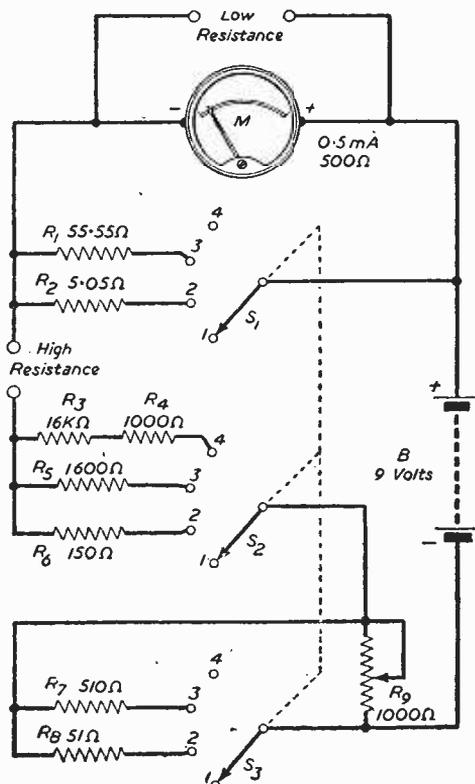

Fig. 3.—The wide-range ohmmeter for 0.1 ohm—1 megohm.
**I**NSTABILITY due to lack of sufficient decoupling in the H.T. supply is a common cause of trouble in microphone amplifiers and considerable attention should be paid to this part of the circuit. If the microphone amplifier has its own mains unit, it is sometimes claimed that no decoupling is necessary. The argument is that the A.C. components of the anode currents of the two valves are out of phase and therefore instability cannot be caused by a common impedance in the H.T. circuit. Although this is true, a common impedance can cause negative feedback, which may reduce the gain of the amplifier considerably. Thus, the H.T. supply for the first valve must be adequately decoupled. If the microphone amplifier and the following amplifier are fed from a common H.T. supply, considerable decoupling is necessary for both valves. As pentodes with high anode and screen resistors take very small H.T. currents, high value resistors can be used for decoupling without causing too great a loss of H.T. volts. Nevertheless, it is very doubtful if all the decoupling necessary for the first stage can be supplied by a single R.C. circuit. If it can be done, the values of R and C necessary will be of the order of 100,000 ohms and 32  $\mu$ F respectively and it is far preferable to use two stages of decoupling with the values suggested in Fig. 3. Although the author has found the decoupling measures illustrated in Fig. 3 satisfactory, it is possible in particular circumstances that additional decoupling may be necessary to prevent instability. In such cases a two stage decoupling circuit may be used for V2 or a three stage circuit for V1. The loss of H.T. volts in the decoupling networks is about 50 volts for both valves, and the H.T. supply to the amplifier, therefore, should be about 350 volts.
It is clear from Fig. 3 that R5, C4 and R10 form a potential divider across the H.T. supply to V1 and that any ripple present will be amplified by V2 and all subsequent valves. It is, therefore, unnecessary to say that the H.T. supply for the microphone amplifier should be very thoroughly smoothed. This need not, however, cause undue concern, for it is usually found that if the H.T. supply is adequately decoupled it is automatically sufficiently smoothed.
The output impedance of the amplifier of Fig. 3 is very high and it should not be connected to a load of less than 250,000 ohms, otherwise a serious loss in amplification and of bass response will occur.
Since a series-connected ohmmeter will measure medium and high resistances, and a shunt-connected ohmmeter will measure low resistances, it only remains to combine the series and shunt circuits to make a wide-range ohmmeter. Such a circuit combination is shown in Fig. 3, where is illustrated a meter capable of measuring, with quite fair accuracy, resistances between the limits of 0.1 ohm to 1 megohm.
The simple meter is shown in Fig. 3, and the following parts will be needed: